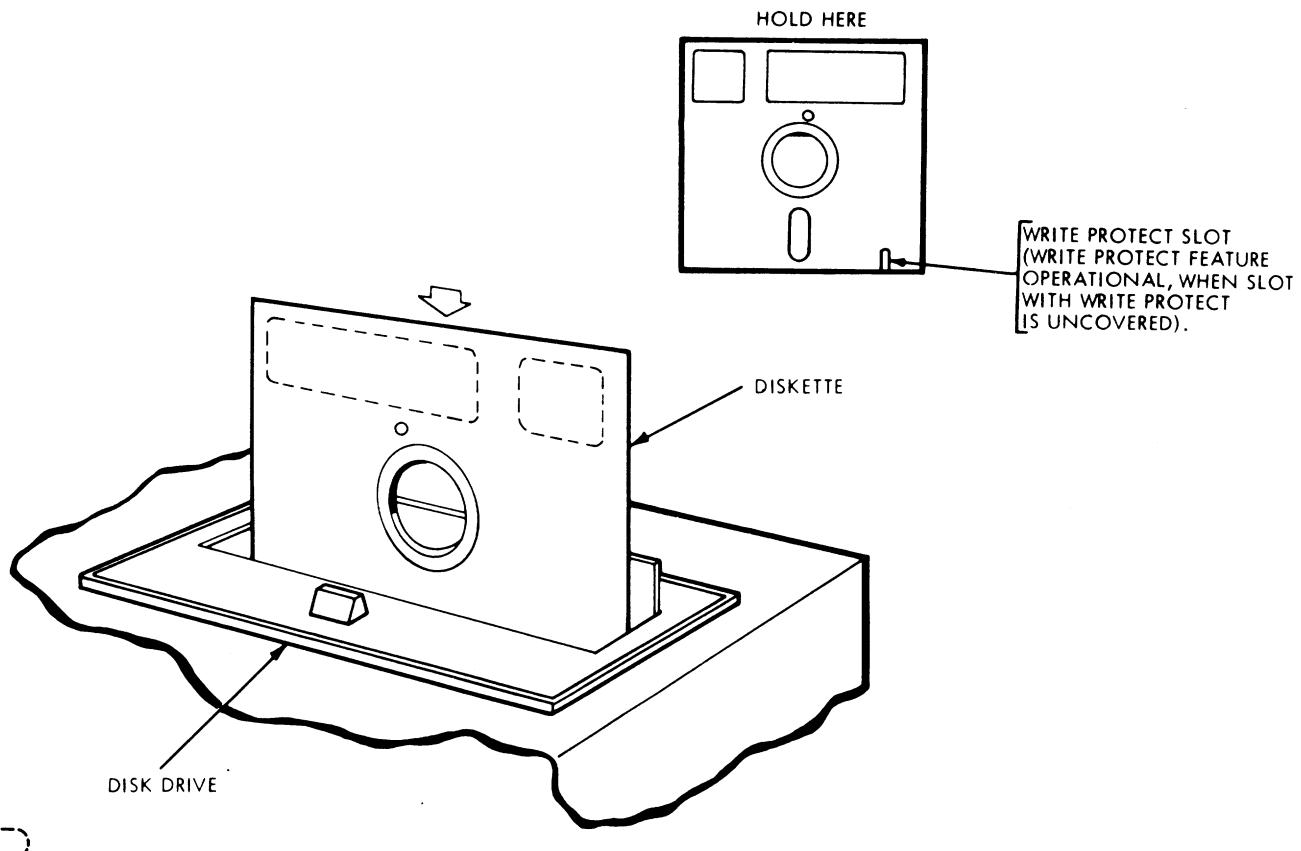

FIGURE 2-1. DISKETTE INSTALLATION
- c. Remove diskette from storage envelope as shown in Figure 2-1.
- d. On units with the Write-Protect option, be sure the Write-Protect slot in the jacket is open, as shown in Figure 2-1, if the diskette is to be write-protected.
- f. Carefully slide diskette into FDD, as shown in Figure 2-1, until jacket is solidly against stops.